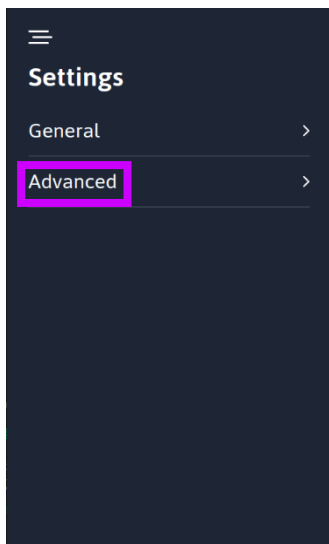
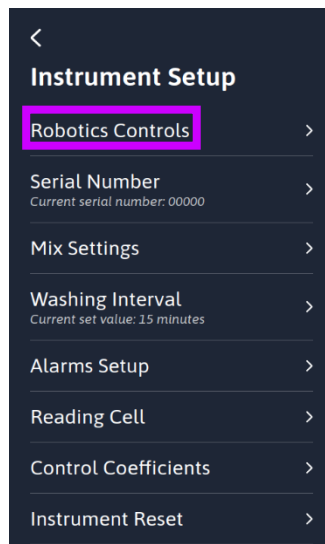
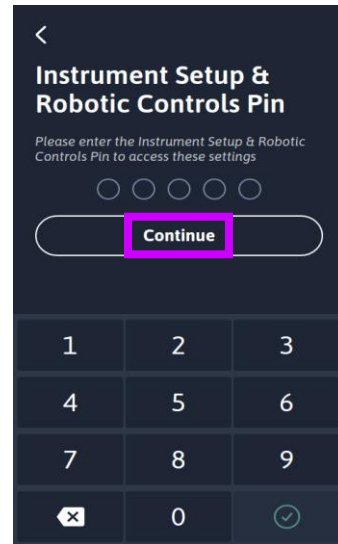

Figure 6
Figure 7
Figure 8
- Press the Advanced settings button (Figure 6) that lead to the Instrument Setup Page (Figure 7). Select Robotics Controls which opens the Robotics Control Pin Page (Figure 8). Enter the PIN: 19912 and press Continue.